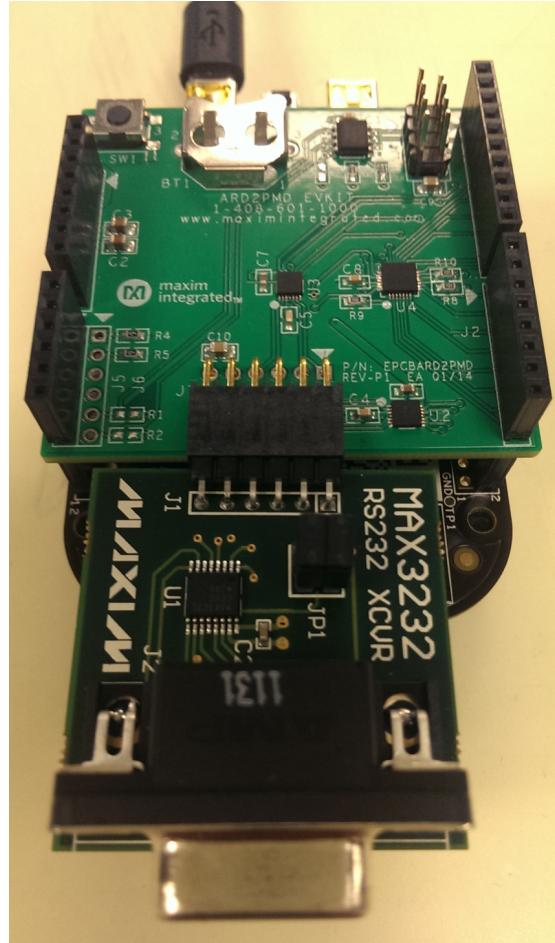

Figure 1
1. Connect hardware as shown in Figure 1.